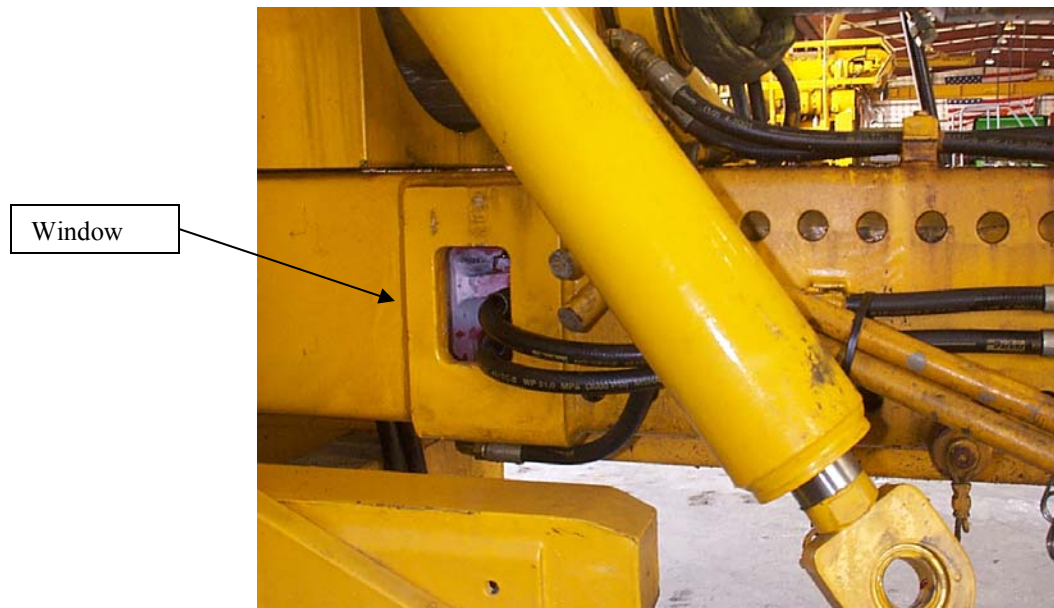

Figure 1
1. Disconnect the two hoses that are connected to the BUW cylinder through the driller side's small window in the outer tube as shown in figure 1 below. Due to the limited access, the use of Crow Foot Wrench to disconnect the hoses may be necessary.